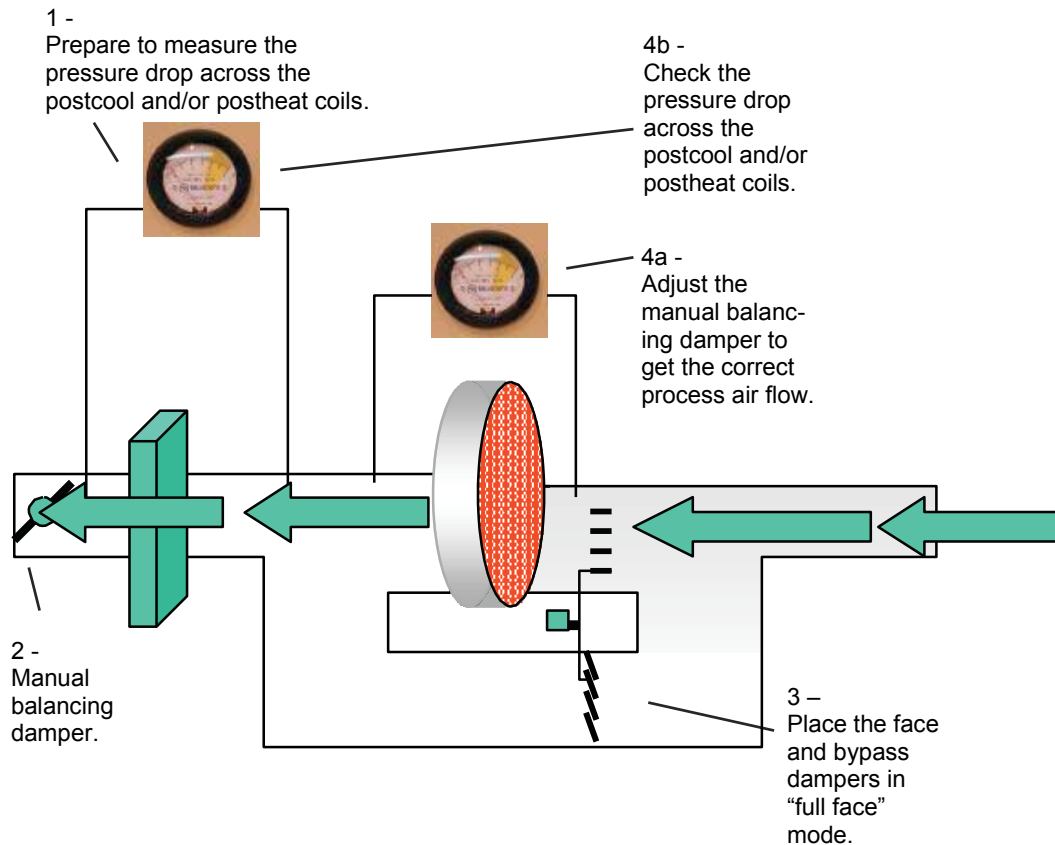

Figure 5-8
3. Start the system and place the face and bypass dampers in the "full face" positions. See Figure 5-8.